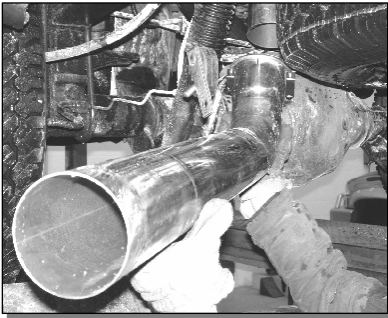
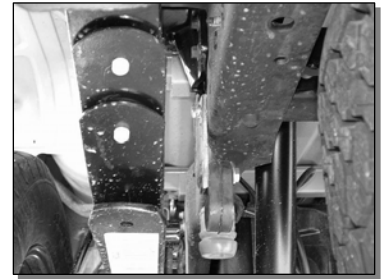

Figure 11
Figure 12
9. Connect the **Driver’s Side Tail Pipe** to the **Over Axle Pipe**. Lift the **Tail Pipe** into approximate position. **See Figure 11.** Using the factory hole located in the frame, found directly above the tail pipe hanger, attach the **Rubber Hanger** provided using the 7/16" nut & bolt supplied. **See Figure 12.** Hang the **Tail Pipe** using the installed **Rubber Hanger**.